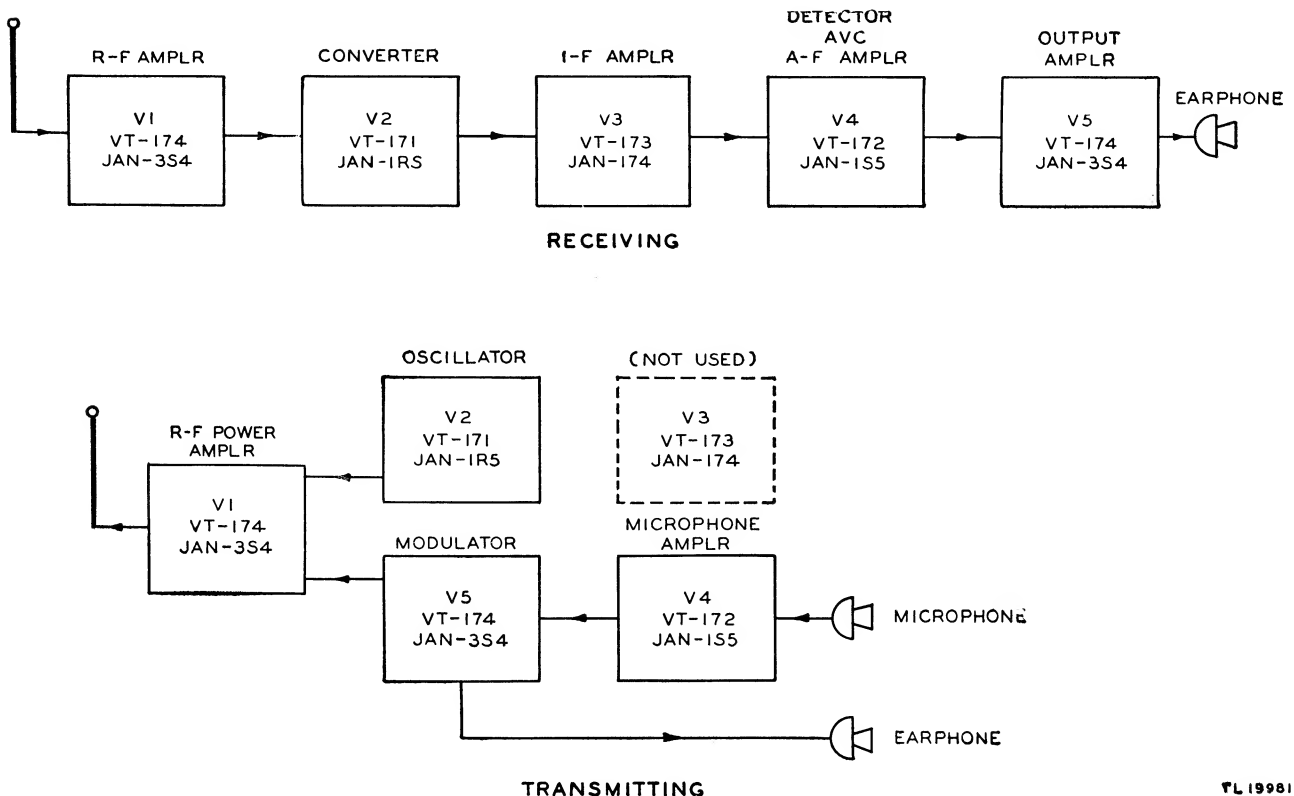

Figure 49. Radio Set SCR-536-(*), block diagram.
b. RECEIVER. Figure 49 shows the signal paths through the receiver and transmitter. The same antenna is used for reception and transmission. The received signal voltage is amplified by tube V1 and applied to the signal grid of tube V2. In converter tube V2, the incoming signal is mixed with the oscillator signal generated in the same tube, producing a beat frequency of 455 kc. The oscillator uses a
(2) Block diagram of Radio Set SCR-536-(*). (See fig. 49.)